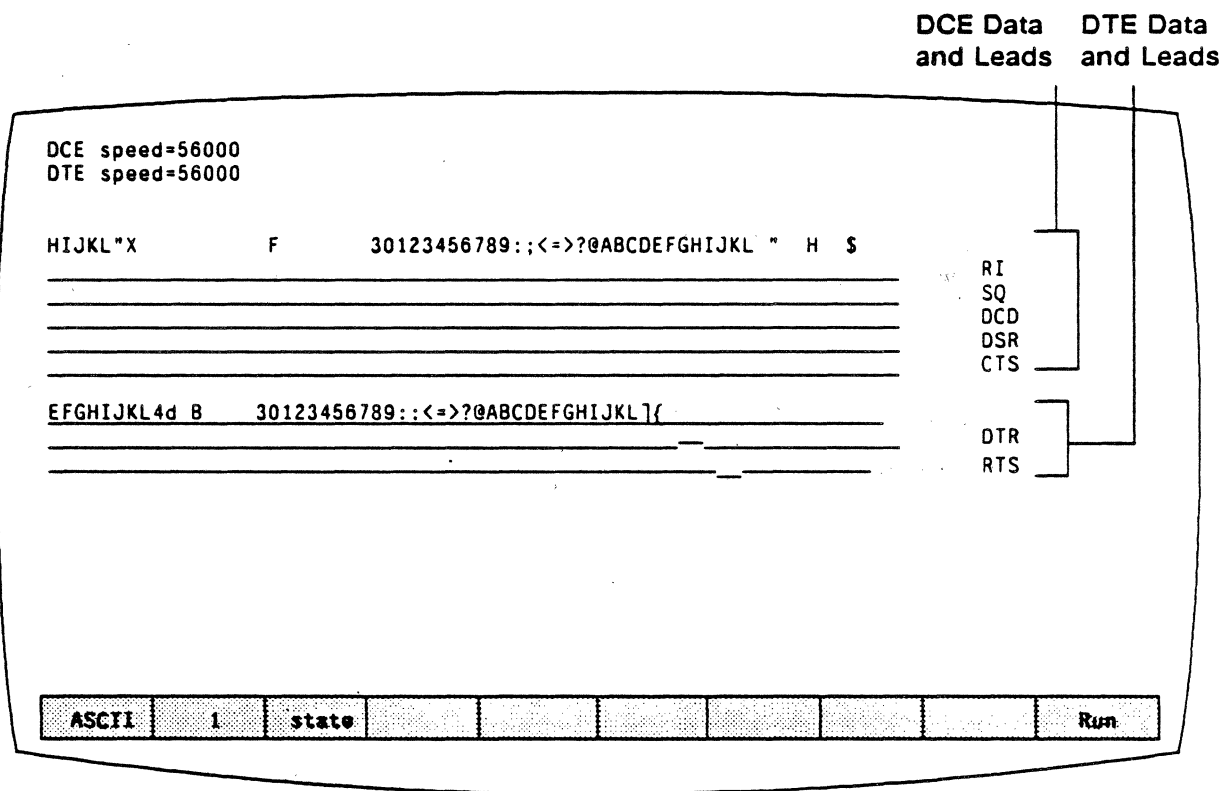

Figure 5.5: Dual Line Display (F3 = State)
- state** Interface lead states and data are displayed. When selected, one line of DCE data is displayed with the five DCE interface leads shown below the data. Below the DCE leads is one line of DTE data with the two DTE interface leads. Changes in voltage are shown as raised or lowered portions of the line. This is shown in the DTE leads in Figure 5.5.